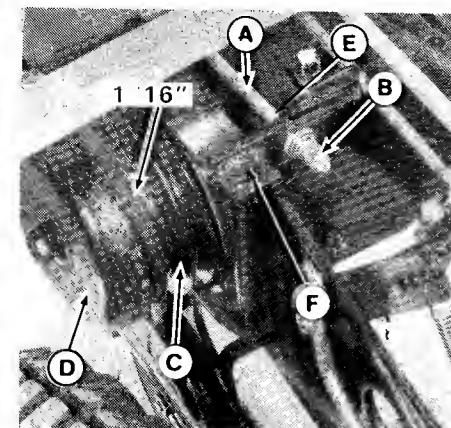

Figure 21. PTO Clutch Adjustment - All Models
The PTO clutch is properly adjusted when the clutch pulley (C, figure 21) moves away from clutch cone (D) 1/16 inch (1.5 mm) when clutch is disengaged. To adjust, proceed as follows.
1. Loosen the rear nut (B).